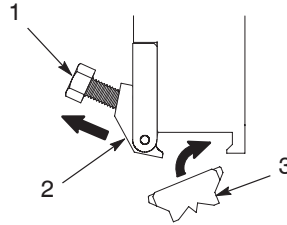

Figure 6 Removing/installing a nozzle (meltblown nozzle shown)
1. See Figure 6. Loosen the clamp screw that secures the nozzle.